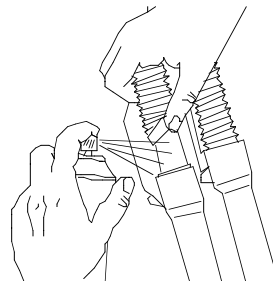

FIGURE 8: LUBRICATING THE BUSHINGS
When cleaning the fork, it is NOT RECOMMENDED to direct water spray at the seals. See Figure 8
8. Add approximately 100 CC of 5 WT Maxima or equivalent oil. Do not over fill. Check oil level, see Figure 8.